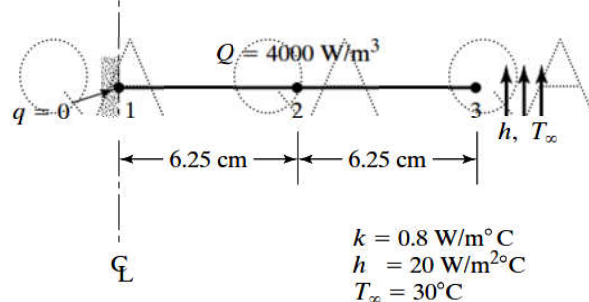

Figure 7
8. Heat is generated in a large plate ($k = 0.8 \text{ W/m}^\circ\text{C}$) at the rate of 4000 W/m^3 . The plate is 25 cm thick. The outside surfaces of the plate are exposed to ambient air at 30°C with a convective heat-transfer coefficient of $20 \text{ W/m}^2\cdot^\circ\text{C}$. Determine the temperature distribution in the wall (figure 7). [10]